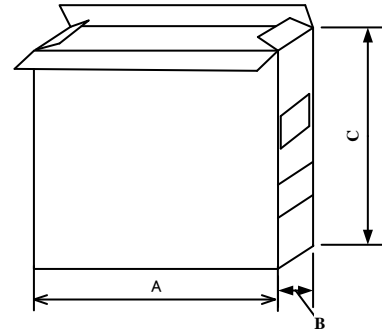

Fig.9.2.3-3
3)Marking on outer case ( see Fig.9.2.3-5~7 ):